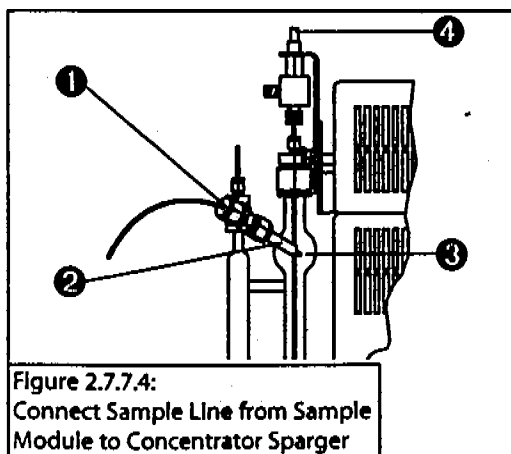

Figure 2.7.7.4:
1. Disconnect the drain line from the female luer connector of the sample inlet valve (❶, Figure 2.7.7.1).
2. Loosen the 1/4" nut (❷) on the sparger end of the purge line and remove the purge line.
3. Loosen and remove the 1/16" nut and ferrule from the top of the sample mount fitting (❹).
4. Loosen the #6-32 thumbnut that secures the sample valve/needle assembly (❺) and remove the assembly by sliding upward and out of the sample mount fitting.
5. Loosen the 1/2" nut (❻) on the bottom of the sample mount fitting. Remove the sparger by gently pulling downward.
1. Insert the sparger (with side arm) up into the sample mount fitting (❶, Figure 2.7.7.2).
2. Tighten the 1/2" nut finger-tight (❷). The sparger must be "seated" correctly in the sample mount fitting to ensure a leak-tight connection.
1. Loosen the black thumbnut (❶, Figure 2.7.7.3) on the bottom of the sample inlet valve/needle assembly (❷).
2. Gently pull the old needle (❺) and ferrule out of the sample inlet valve. Check the orientation of the needle ferrule so that you install the new one in the same way.
5. Slide the 1/16" nut and the 1/16" one-piece ferrule (white) (❸) onto the needle.
6. Insert the needle through the top of the sample mount fitting (❺) and secure the assembly in place with the #6-32 thumbnut (❻). Make sure that the sample needle is far enough down into the sparger.
7. Seal the needle to the sample mount fitting by tightening the 1/16" top sample fitting nut (❹) finger-tight plus 1/4-turn with a 5/16" wrench to ensure adequate draining.
1. Attach the reducing fitting, (❶, Figure 2.7.7.4) onto the end of the tubing that exits the port labeled To Concentrator on the front panel of the sample module.
2. Place the fitting over the sparger slide arm (❷).
3. Feed the tubing through the fitting and into the arm until the tubing just enters the sparge bulge (❸) beneath the knurled nut (approximately 1/2" into bulge).